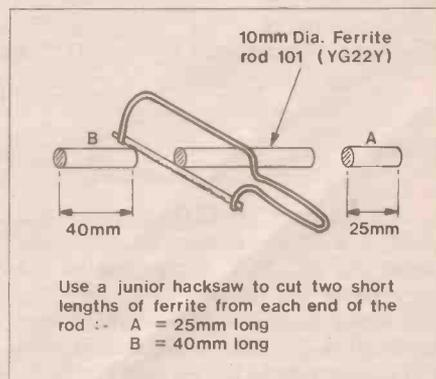
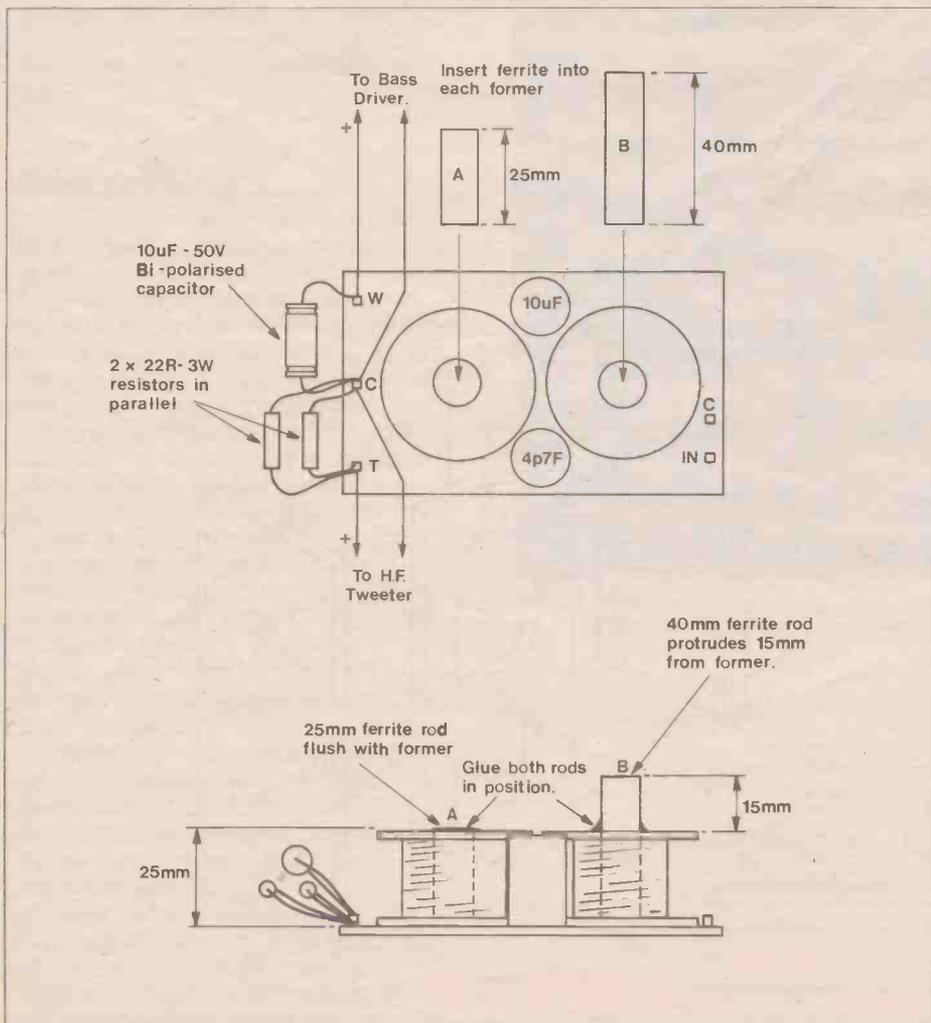

Figure 6. Cutting the ferrite rod.
Figure 7. Modifying the crossover.
With reference to Figures 6 & 7, take the 10mm ferrite rod and cut a piece (A) 25mm long and another piece (B) 40mm long, using a hacksaw. Ferrite is a very brittle material which breaks easily if dropped or excessive pressure is applied whilst sawing! Orientate the x-over module, as Figure 7, and insert (A) into the former, apply adhesive or hot melt glue around the edge of the rod, to hold in place. Insert (B) into the HF filter coil on the right hand side. The 40mm long rod protrudes about 15mm above the former; again run a fillet of adhesive around the edge as shown. The driver transducer piston is covered with an